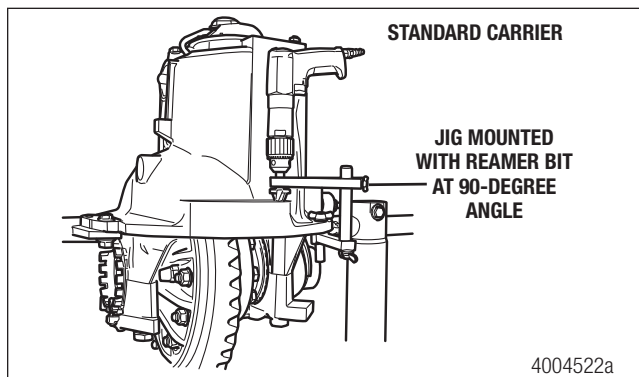
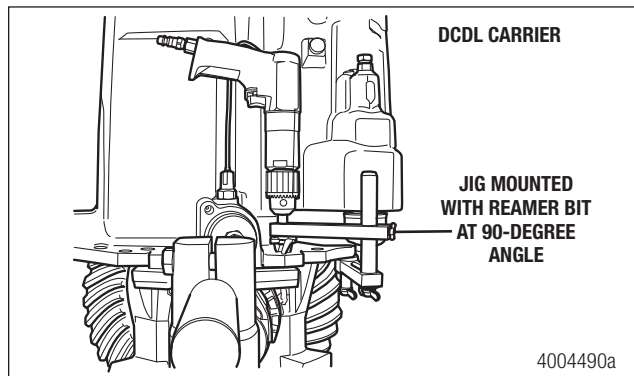

Figure 9
Figure 10
4. Align the tapered reamer bit pilot in the carrier hole. The bit must fit at a 90-degree angle to the carrier flange surface. Figure 9 and Figure 10.